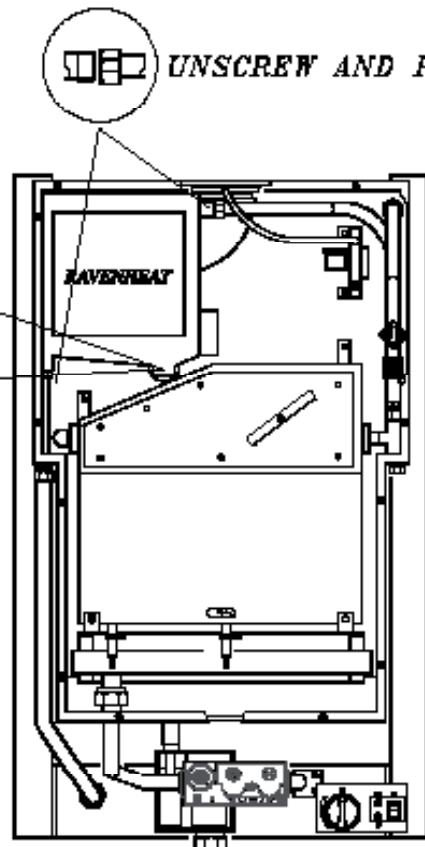

Fig. 56
- 7.6.5.6** Pull the heat exchanger down and slightly forward until it comes out of the connection from chamber (Fig.56).